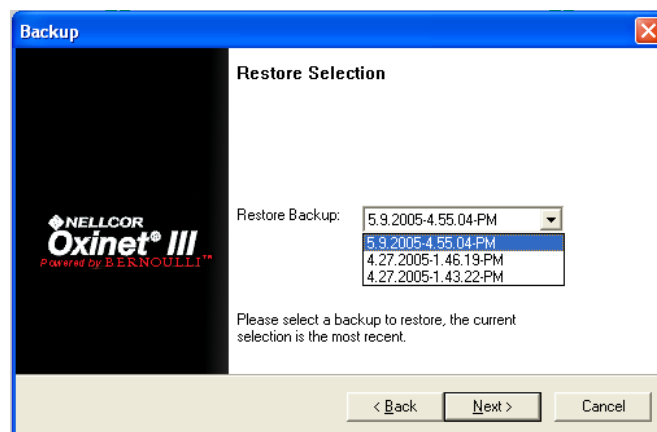

Figure 18: Restore Function —Select a Version
- 5 If you have more than one version backed up, the system asks you to select the version you want to restore; the most recent version will be the current selection. Press or click the drop-down arrow to view and select another saved version (Figure 18).